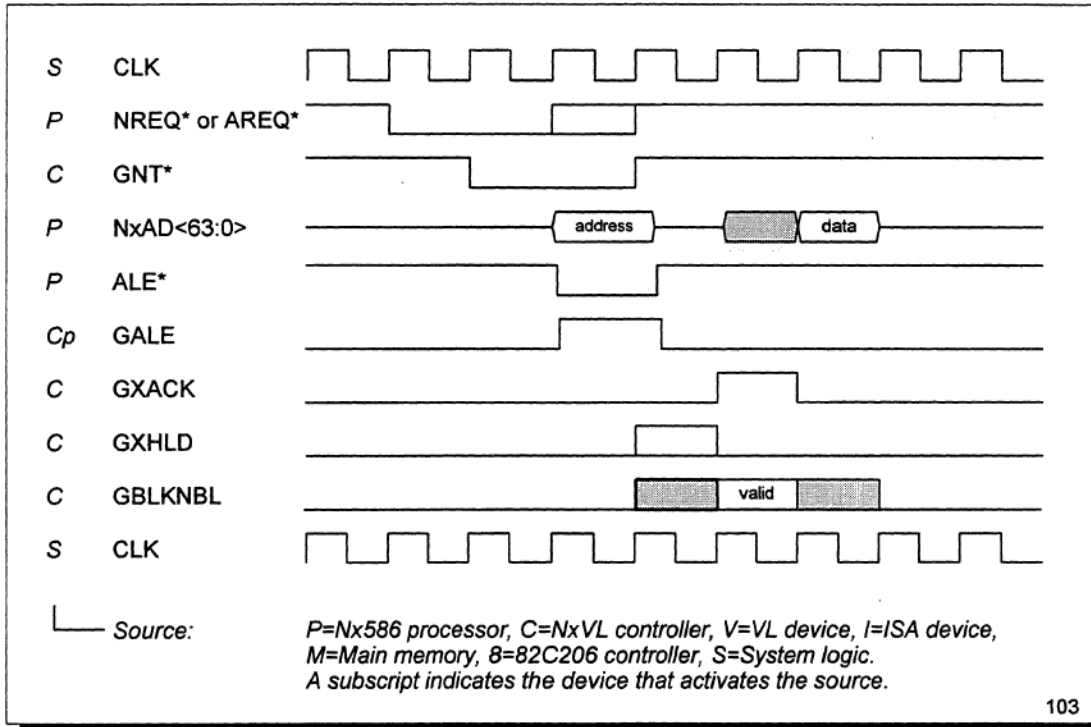

Figure 32 Bus Arbitration, Address, and Data Phase (BUFMODE = 0)
Figure 32 shows the processor's bus arbitration and address phase. The notation regarding Source in the left-hand column of the figure indicates the device or logic that generates the signal. In some timing diagrams, bus signals take on different names as outputs cross buses through transceivers or are logically ORed in group-signal logic. In these cases, the signal source is shown with a subscript, where the subscript indicates the device or logic that originally caused the change in the signal.
In Figure 32, the processor asserts NREQ*, LOCK*, and/or AREQ* to obtain control of all system buses. For bus-granting purposes, the NxVL treats NREQ*, AREQ*, and LOCK* identically. The NxVL arbiter responds in the next clock by asserting GNT*, if no VL or ISA master is currently using the buses (and excluding cases in which the processor needs bus access to write back snooped data, as will be described later). Automatic re-grant of the buses occurs when the NxVL holds GNT* asserted at the time the processor samples it, in which case the processor need not assert NREQ*, LOCK*, or AREQ* and can immediately begin its operation. The NxVL holds GNT* asserted in this manner when no VL or ISA master is requesting the buses.
- *BUFMODE Tied Low (0)*—If BUFMODE is 0, external registered bus transceivers are used between the processor and the NxVL, the XBOE* and XBCKE* signals on the NxVL are tied high, and the NxVL is interfaced to the NexBus, NxAD<63:0>. Figure 32 shows the arbitration, address, and data phases when BUFMODE is 0. Figure 14 shows a block diagram of this bus-connection alternative.
The group signal, GALE, is the logical NOR of all ALE* signals in the system, but in NxVL-based systems there is only one ALE* signal (the one from the Nx586 processor). For multiprocessor systems, the group signals must be generated by an external NexBus arbiter. In Figure 32, the "Cp" symbol in the "Source" column indicates that the source of GALE is the NxVL but that its underlying activator is the Nx586 processor. In most subsequent timing diagrams that show group signals such as GALE, the corresponding activating signal is not shown but is indicated by the subscript on the Source symbol.